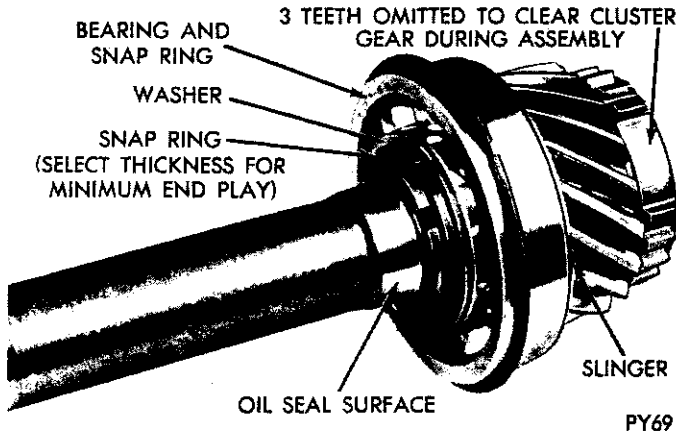

Fig. 17—Drive Pinion Assembly
(2) Rotate drive pinion so that the omitted clutch tooth area (Fig. 17) is next to countershaft gear for removal clearance.
(3) Grasp pinion shaft and pull assembly out of
(4) Remove snap ring (Fig. 17), which locks bearing on pinion shaft. Remove pinion bearing washer, then carefully press pinion shaft out of bearing, using an arbor press. Remove oil slinger.